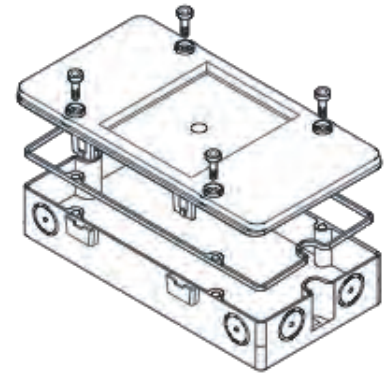

Fig. 4.8.3
4. Open the front panel (Fig. 4.8.3/4.8.4), (make sure the bolt is on the open position) and tighten the screws.